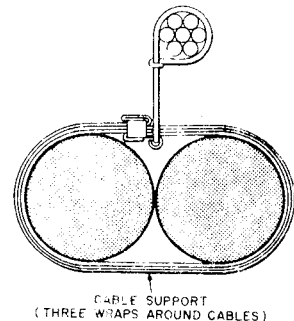

Fig. 21—B Lashed Cable Support With Wire Hanger Used to Support Two or More Cables
- 6.05 When a B lashed cable support with wire hanger is used to support two or more cables, the installation is performed as described in 6.02 with three wraps of the strap around the cables as shown in Fig. 21.